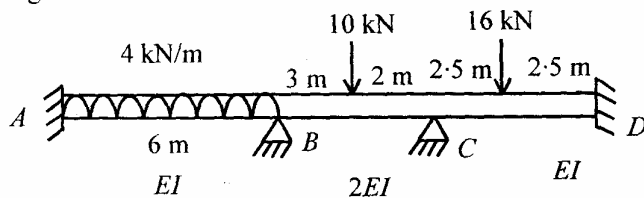

Fig. 3
4. Analyse the continuous beam shown in Fig. 3 and draw the SFD and BMO. Use slope deflection method. EI is constant. 20
4. Analyse the continuous beam ABCD as shown in Fig. 3 by moment distribution method and draw bending moment diagram. 20